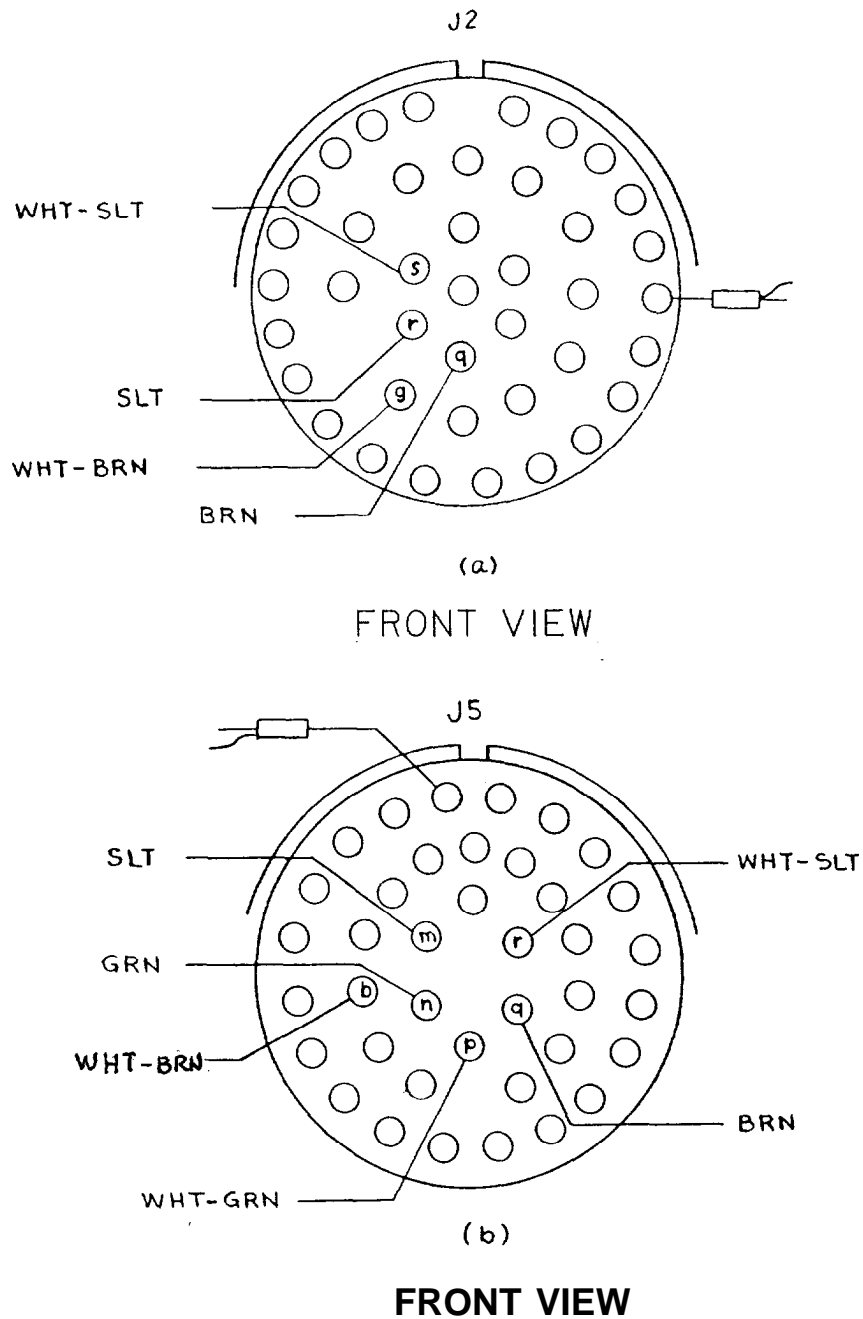

FIGURE 11
2. Using an ohmmeter, verify an open circuit condition (infinite resistance) between each of the following pairs of connector pins. All connections are located on the rear panel of the R/ACU. Refer to Figure 11 for a pin layout of connectors J2 and J5.